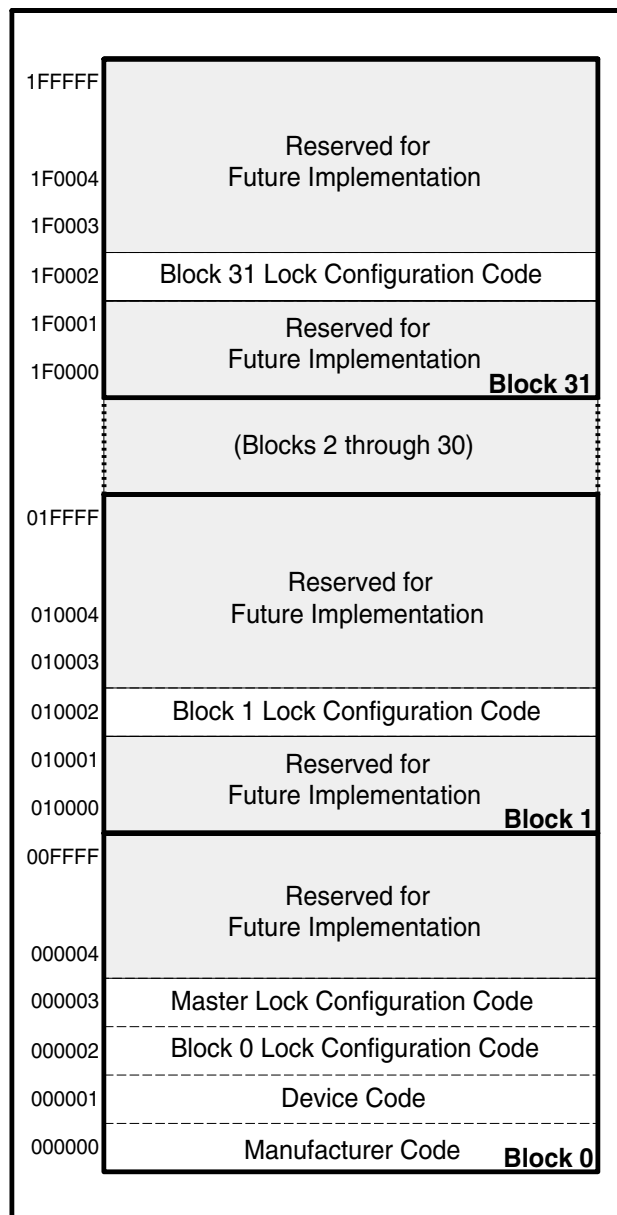

Figure 4. Device Identifier Code Memory Map
The read identifier codes operation outputs the manufacturer code, device code, block lock configuration codes for each block, and the master lock configuration code (see Figure 4). Using the manufacturer and device codes, the system CPU can automatically match the device with its proper algorithms. The block lock and master lock configuration codes identify locked and unlocked blocks and master lock-bit setting.
IA=Identifier Code Address: see Figure 4.
The identifier code operation is initiated by writing the Read Identifier Codes command. Following the command write, read cycles from addresses shown in Figure 4 retrieve the manufacturer, device, block lock configuration and master lock configuration codes (see Table 5 for identifier code values). To terminate the operation, write another valid command. Like the Read Array command, the Read Identifier Codes command functions independently of the V_{PP} voltage and RP# can be V_{IH} or V_{HH} . Following the Read Identifier Codes command, the following information can be read:
1. X selects the specific block lock configuration code to be read. See Figure 4 for the device identifier code memory map.